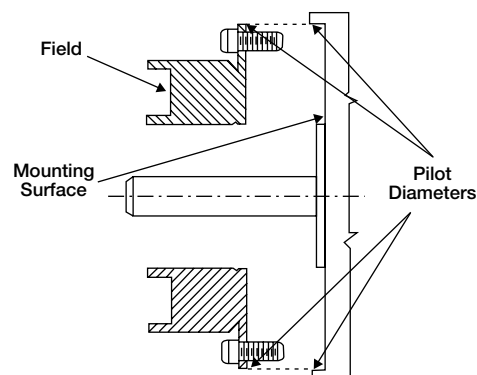

Figure 1
1. Care must be taken in selecting the location for mounting the field assembly. Pilot diameters are machined on the field mounting flange to aid in holding the field in the proper position. (Figure 1)